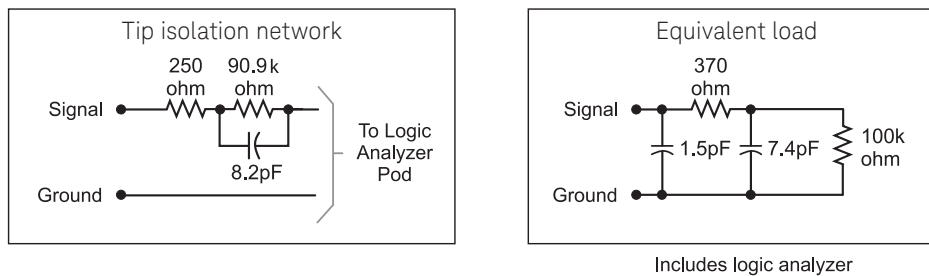

Figure 2.1. Probe tip Isolation network and equivalent load.
The standard probing system consists of IC clips, probe leads, probe housing and probe cable. Because it is passive, the standard probing system is smaller, lighter, and much easier to use than active probing systems. This passive probing system is similar to a probing system used on a high frequency oscilloscope. It consists of an isolation network (as shown in Figure 2.1) at the probe tip and a shielded resistive transmission line. The advantages of this system are:
- High input impedance. See Figure 2.1.